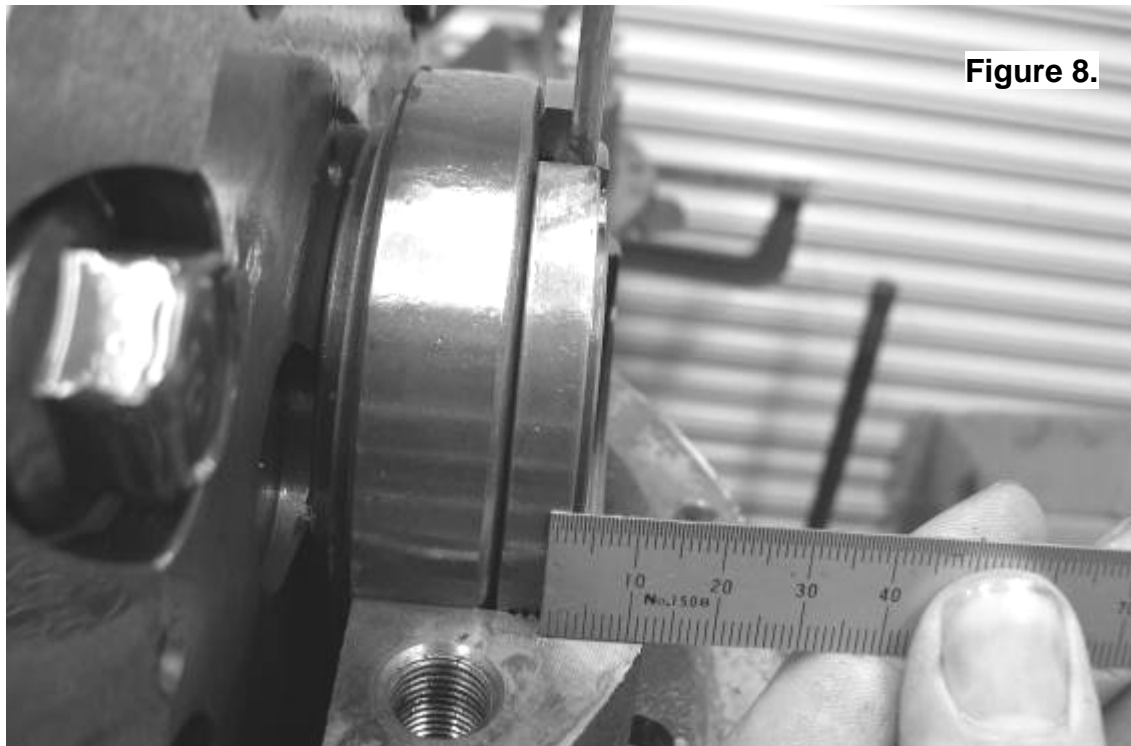

Figure 8.
- ☐ Measure the distance from the outside edge of the left hand bearing cap, to the centerline of the seal housing tube as shown in Fig 8. This measurement is required for positioning the hole. As can be seen, in this example the distance is approximately 12mm.